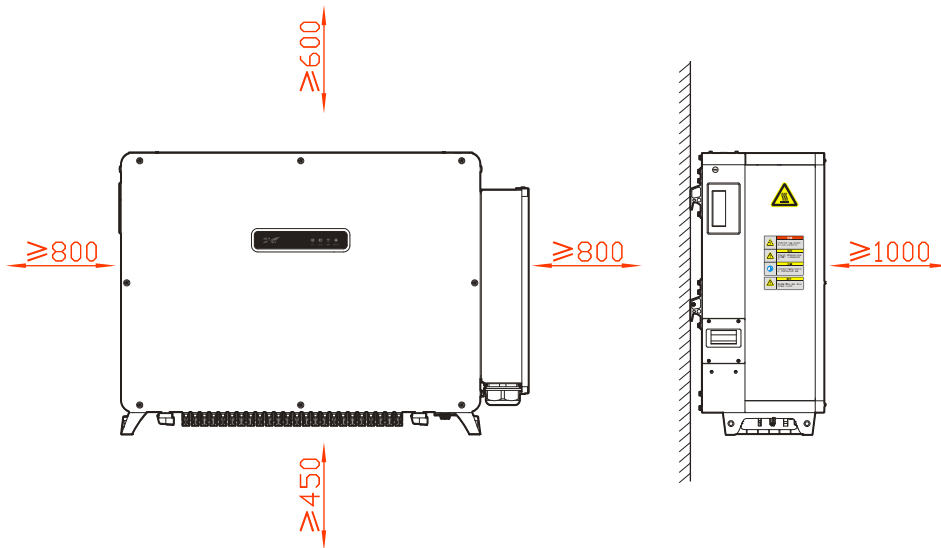

Figure3-4 Installation clearance
- Keep a clearance of at least 800mm from the left side and right side of the inverter to other objects, keep at least 600mm from the top of the inverter to ceiling and at least 450mm from the bottom of the inverter to ground, which is good for heat dissipation or maintenance, as shown in Figure3-4.